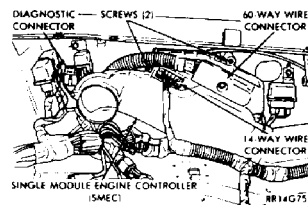

Fig 1a
3. Remove 2 module mounting screws, (3 mounting screws on full size pickup) - (Fig 1a, b, c).
4. Remove 14 and 60 way wiring connectors from the SMEC and remove SMEC (Fig 1a, b, c).